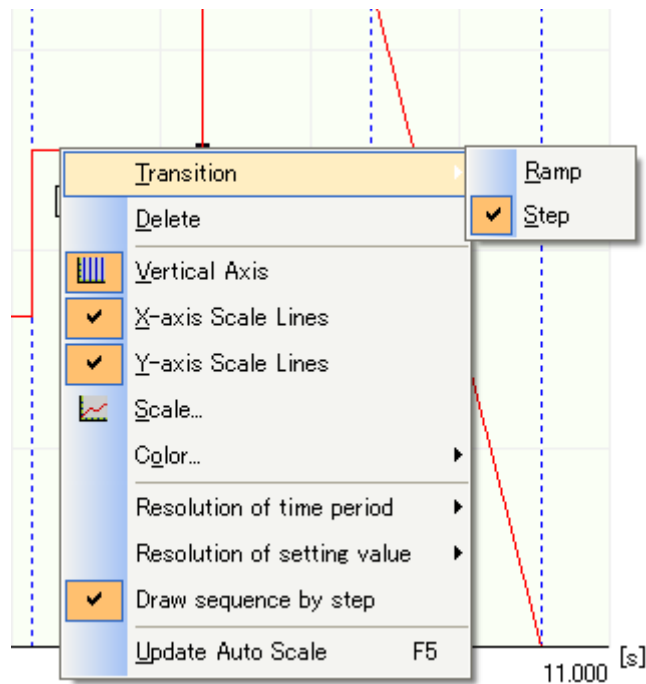

Fig. 7-10 Transition Change
Double click on the line you wish to change. This will cause the end of the line to change to a black point (Fig. 7-10).
At this stage, press the right mouse button (Fig. 7-10).
- * 4When creating the sequence by a mouse, decimal point can be selected by setting [Resolution of time period] and [Resolution of setting value]. Selecting [Draw sequence by step] allows you to create the sequence transition by step at all times, instead of ramp transition. (Fig. 7-10)